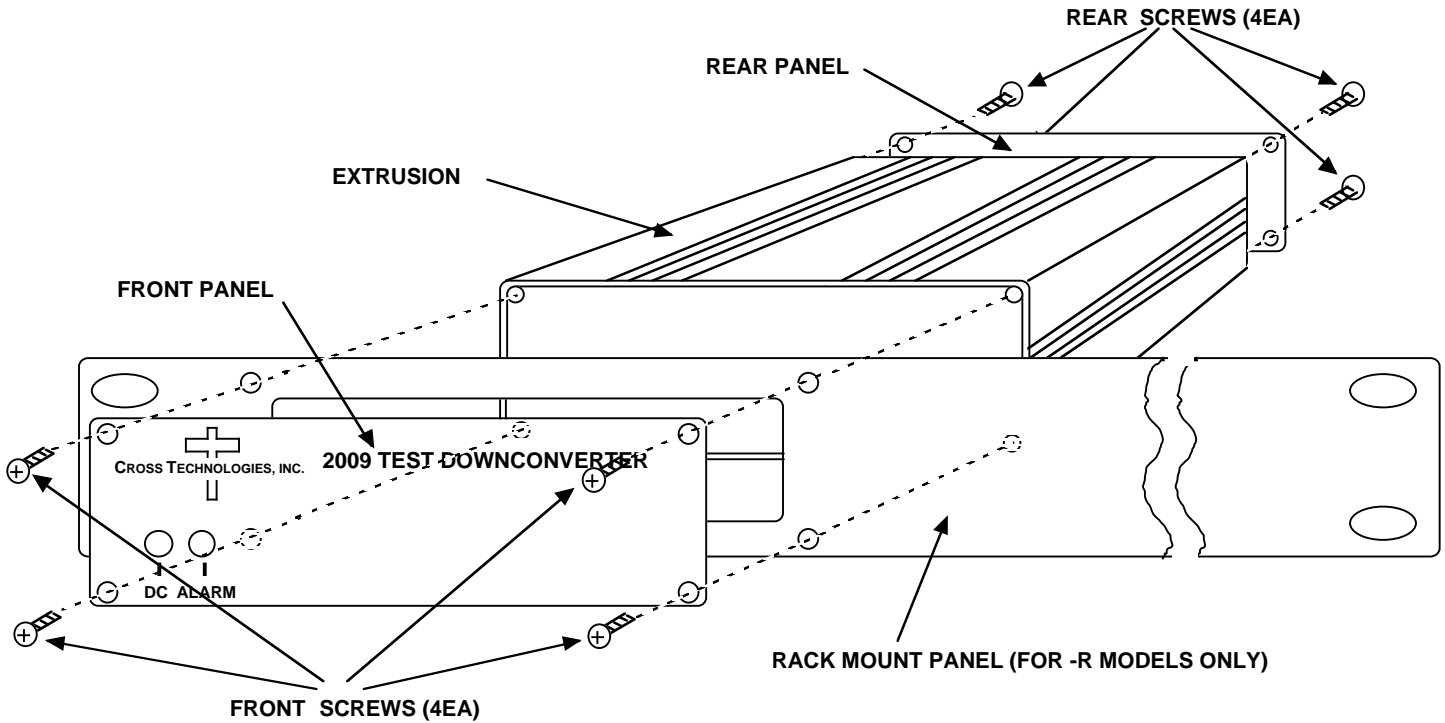

FIGURE 2.1 Model 2009-58 Assembly (-R option shown)
The 2009-58 is packaged in an aluminum extrusion. The **-R option** is mounted on a 1 3/4" X 19" panel that can be mounted to a rack using the 4 holes at the ends (See Figure 2.1).
2. Remove four (4) **rear panel screws** (see Figure 2.1).
5. Install four (4) **rear panel screws**.